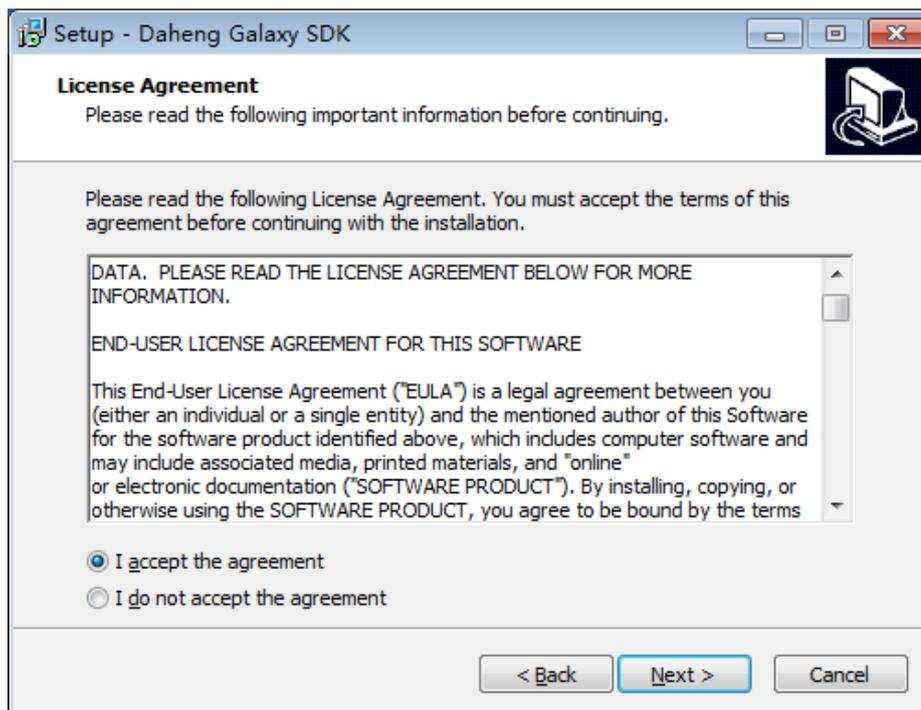

Figure 2.2-10
(13) Click next, continue installation, start camera-driven installation. As shown in figure 2.2-10: